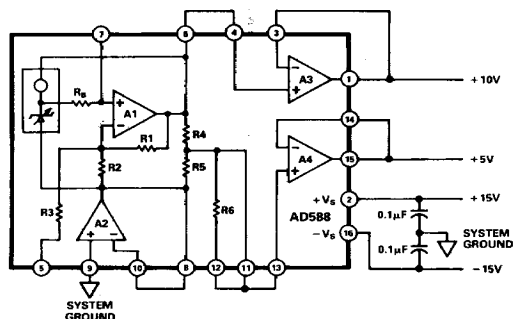
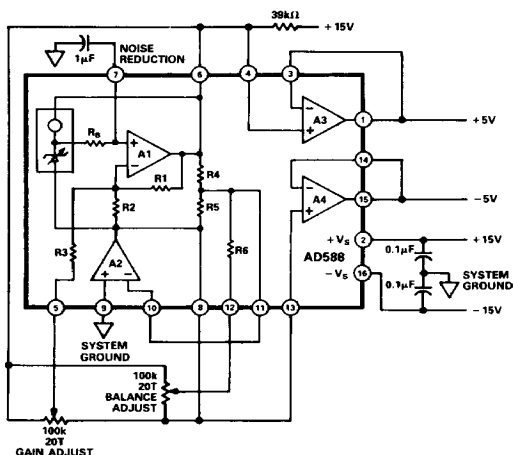
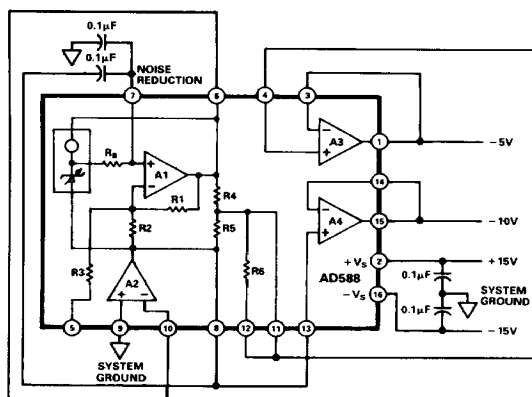

Figure 2a. +10V Output
Figure 2b. +5V and -5V Outputs
Figure 2c. -10V Output
+10V Figure 2a
-10V Figure 2c
+5V, -5V, ±5V Figure 2b
The AD588 can be configured to provide +10V and -10V reference outputs as shown in Figures 2a and 2c respectively. It can also be used to provide +5V, -5V or a $\pm 5V$ tracking reference as shown in Figure 2b. Table I details the appropriate pin connections for each output range. In each case, pin 9 is connected to system ground and power is applied to pins 2 and 16.
As indicated in Table I, a +5V buffered output can be provided using amplifier A4 in the +10V configuration (Figure 2a). A -5V buffered output can be provided using amplifier A3 in the -10V configuration (Figure 2c). Specifications are not guaranteed for the +5V or -5V outputs in these configurations. Performance will be similar to that specified for the +10V or -10V outputs.
Figure 2b. shows GAIN and BALANCE trims in a +5V and -5V tracking configuration. A 100k Ω 20-turn potentiometer is used for each trim. The potentiometer for GAIN trim is connected between pins 6 (V_{HIGH}) and 8 (V_{LOW}) with the wiper connected to pin 5 (GAIN ADJ). The potentiometer is adjusted to produce exactly 10V between pins 1 and 15, the amplifier outputs. The BALANCE potentiometer, also connected between pins 6 and 8 with the wiper to pin 12 (BAL ADJ), is then adjusted to center the span from +5V to -5V.
If further noise reduction is desired, an optional capacitor may be added between the NOISE REDUCTION pin and ground as shown in Figure 2b. This will form a low pass filter with the 4kΩ R_B on the output of the Zener cell. A 1µF capacitor will have a 3dB point at 40Hz and will reduce the high frequency (to 1MHz) noise to about 200µV p-p. Figure 4 shows the 1MHz noise of a typical AD588 both with and without a 1µF capacitor.
Note that a second capacitor is needed in order to implement the NOISE REDUCTION feature when using the AD588 in the -10V mode (Figure 2c). The NOISE REDUCTION capacitor is limited to 0.1µF maximum in this mode.